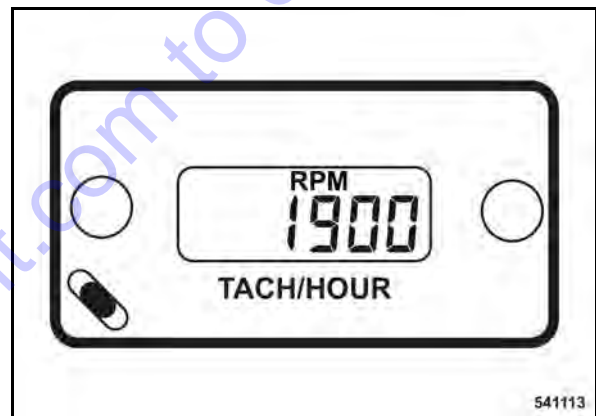

Fig. 58
- After approx. 30 to 40 seconds read the idle speed from the existing engine rpm-meter (Fig. 58).